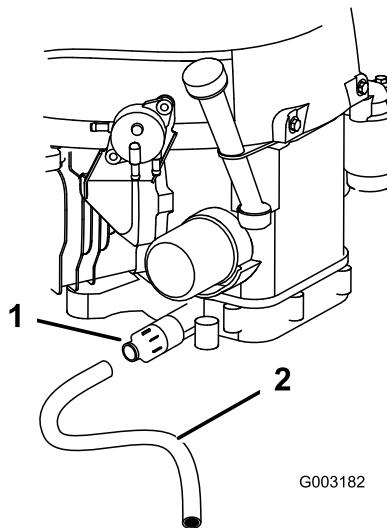

Figure 27
- Slide the drain hose over the drain valve (Figure 27). Place a pan below the drain hose.
- Rotate oil drain valve to allow oil to drain (Figure 27).
- Remove the drain hose (Figure 27).